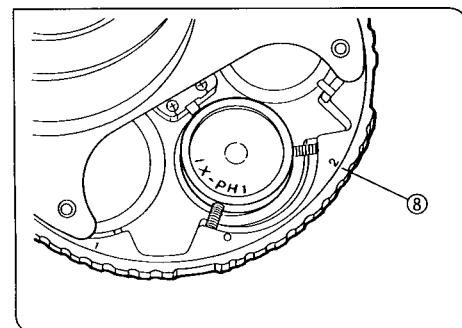

Fig. 25
◎ The turret insert corresponding to the number indicated by the • symbol (10) is engaged into the light path. (Fig. 25)